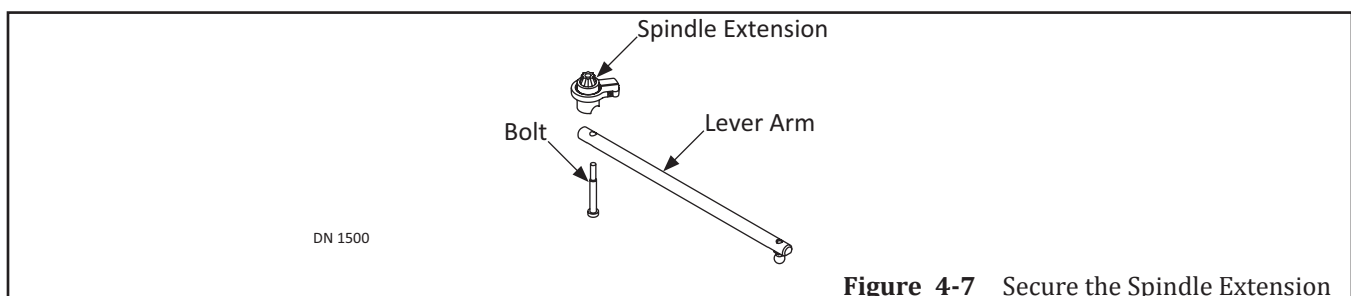

Figure 4-7 Secure the Spindle Extension
1. Place the Spindle Extension onto the top of the Lever Arm. Align the bolt holes. Please see Figure 4-7.
2. From the bottom of the Lever Arm, slide (1) Bolt all the way up through both bolt holes.